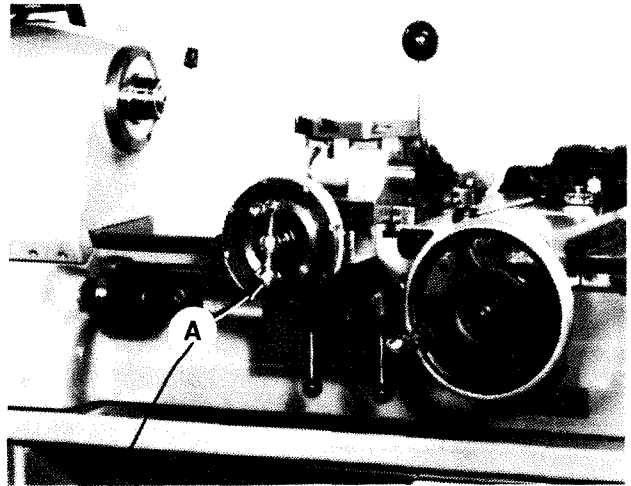

Figure 2.1 - Cross Slide Handwheel
1. Rotate cross slide handwheel "A", Figure 2.1, to move the cross slide to the back of the machine.
6. Using cross slide handwheel "A", Figure 2.1, feed the cross slide toward the back of the machine until travel stops.